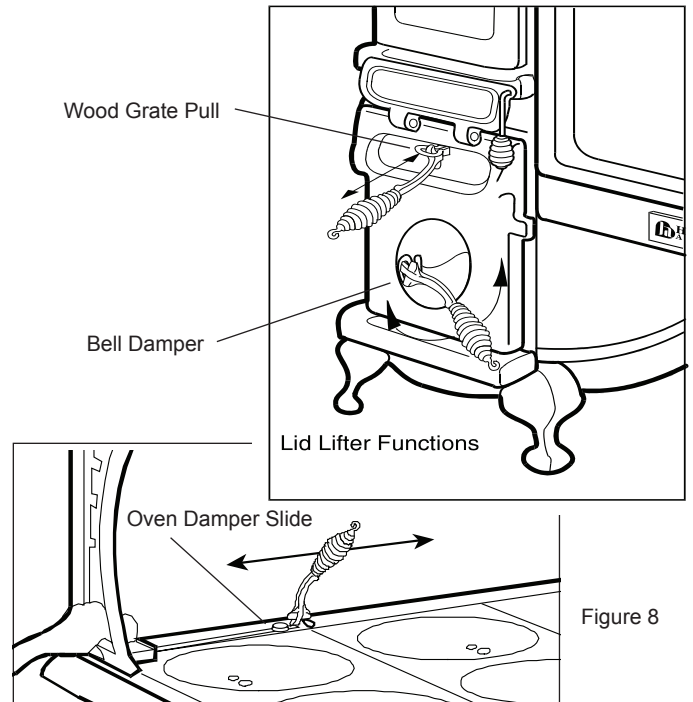

Figure 8
- open the firedoor, ash pan door, woodgrate pull, bell dampers and oven damper with the 1415 lid lifter only—these surfaces get hot; (see figure 8)
1. Open the oven damper (see Fig. 8 and 9) and air intake controls (bell dampers). On damp cold days, it may help to open the ash door slightly until a good draw develops in the chimney.